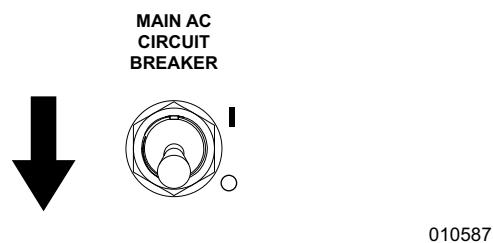

Figure 3-31. Main AC Circuit Breaker OFF (O)
3. See Figure 3-31. Switch main AC circuit breaker to OFF (O).